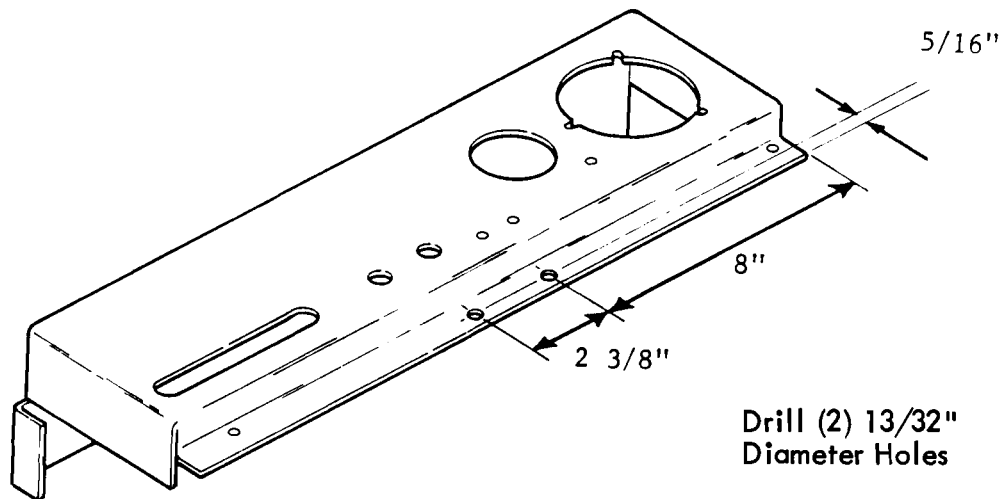

Fig. 2 - REWORK INSTRUMENT PANEL
1. Rework the instrument panel as shown in Fig. 2.